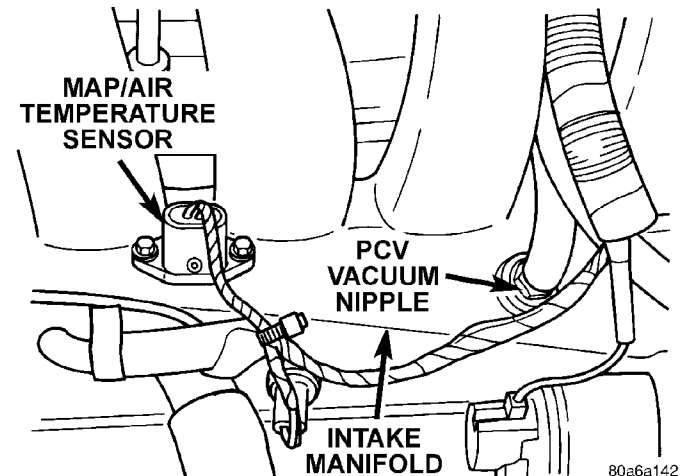

Fig. 15 Intake Manifold Electrical and Vacuum Hose Connections
(13) Disconnect Manifold Absolute Pressure/Intake Air Temperature Sensor (TMAP), electrical connector (Fig. 15). Disconnect vapor and brake booster hoses.